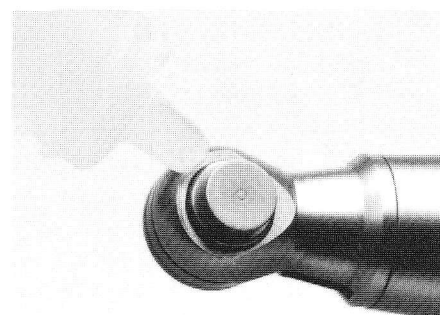

Figure 34
1. Apply a drop of light mineral oil (P/N 1605-10) as shown in Figure 34.